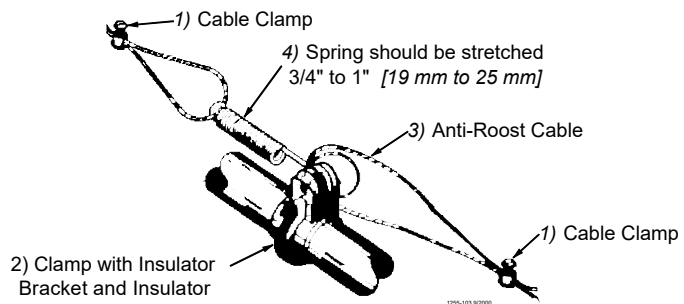

Figure 71. Anti-Roost Cable Mid-Line Connection
4. Attach a spring in the center groove at the second anti-roost bracket and cut the cable at this point. See **Figure 71**.
5. Thread the ends of the cable through the end of the spring. Pull the cable tight so that there is 3/4" to 1" [20 to 25 mm] of stretch in the spring. Clamp the cable to form a loop and cut off any excess. See **Figure 71**.
6. Attach the cable to the insulator. For best results, make a double loop around the anti-roost insulator in the center groove of the insulator and fasten with a 1/16" cable clamp as shown in **Figure 71**.